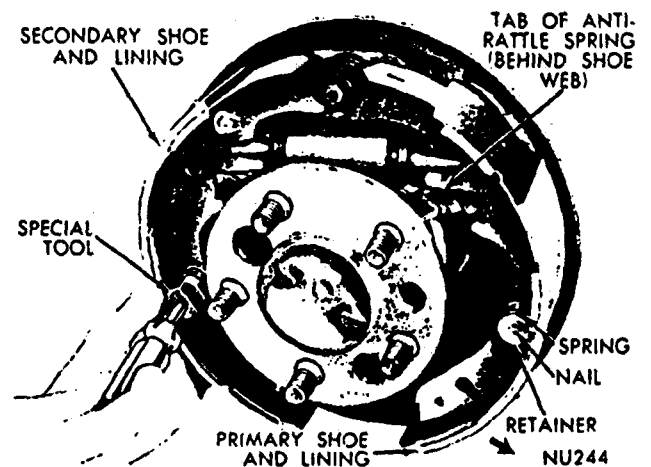

Fig. 5—Removing or Installing Shoe Retainer, Springs and Nails (Right Rear)
(7) Remove brake shoe retainers, springs and nails. Using Tool C-4070, (Fig. 5), and remove from support.
(8) Disengage parking brake cable from parking brake lever.
(8) Install adjusting lever spring over pivot pin on shoe web. Install adjusting lever under spring and over pivot pin. Slide lever slightly rearward to lock in position.
(9) Using Tool C-4070, install shoe retaining nails, retainers and springs. (Fig. 5).